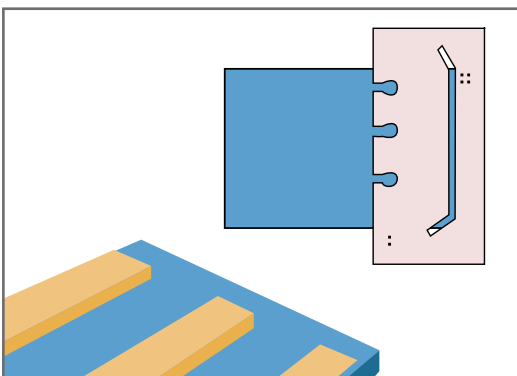
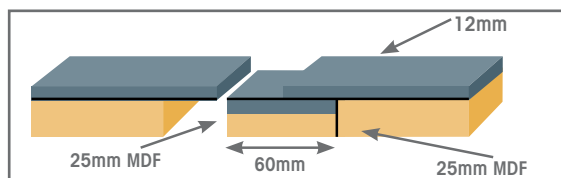

Fig. 8 Underside of Male Mason's Mitre after routing
Fig. 9 Standard Join - Cleat method
- Cut the blank that is the male side of the join to length by measuring the length required and then refer to Fig. 8 or Fig. 9 to provide a template positioning line in pencil.
- All joins must be reinforced using the standard cleat method as Fig. 9.